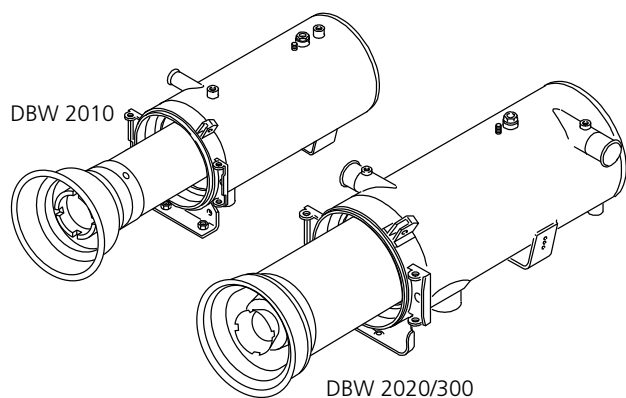

Figure 51: Burner tube replacement
2. Withdraw combustion chamber (Fig. 51) from heat exchanger and remove.